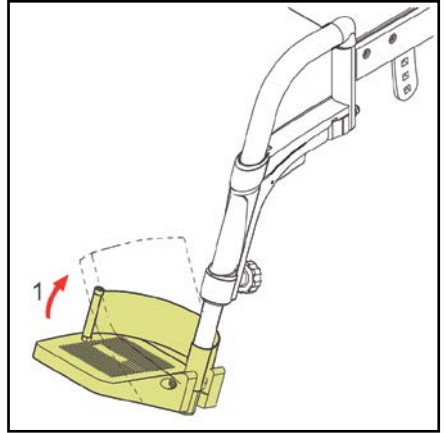

Figure 6.1
1. Flip the footplates up (fig 6.1)..